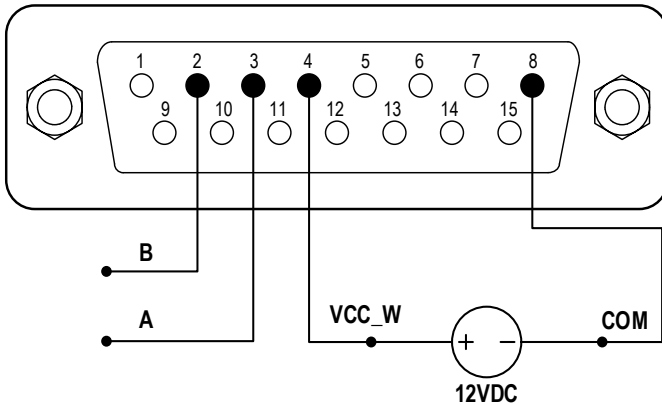

Figure 25. RS485 MODBUS Wiring
- 1) When the power is off, wire the DB15 connector as shown in Figure 25 and connect it to the DB15 port on the rear of the pump. An external DC power source is recommended to avoid electrical interference.